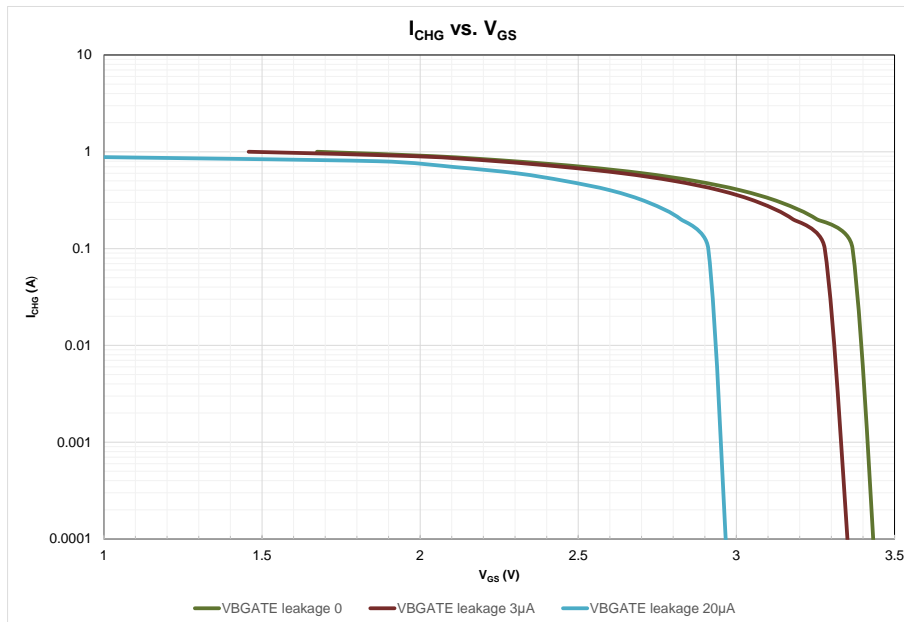
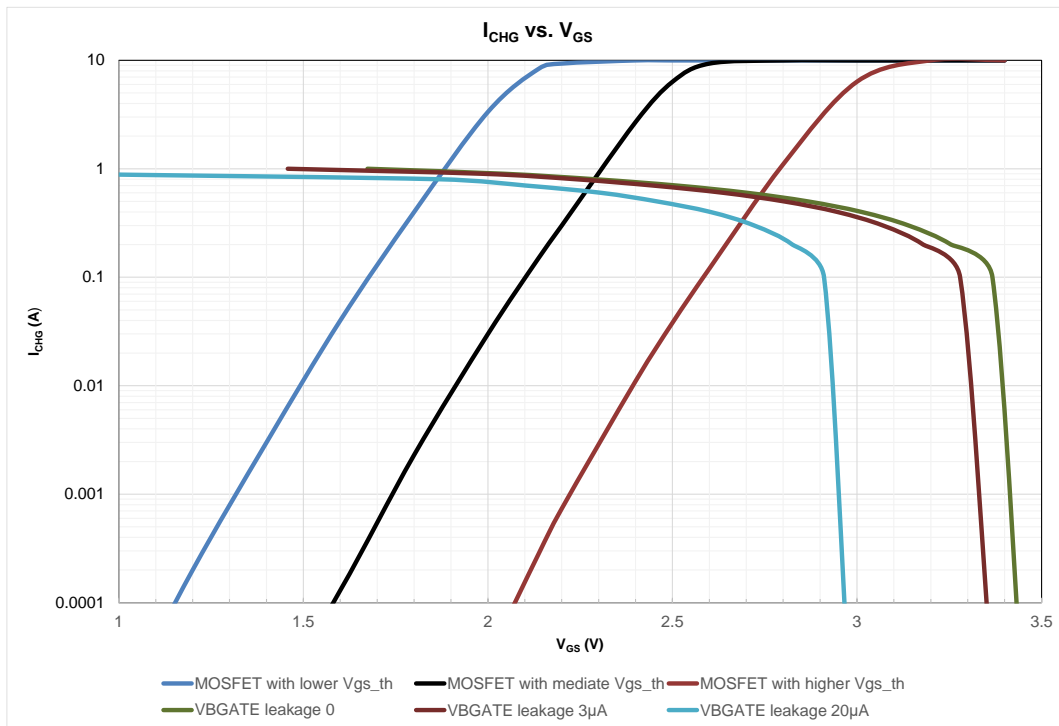

Figure 5: I_{CHG} vs. V_{GS} of the MP2760's BATFET ($I_{CHG_CONF} = 1A$)
Figure 6: Estimated I_{CHG} When the MP2760's BATFET Works Linearly with Different MOSFET Types ($I_{CHG_CONF} = 1A$)
Figure 5 shows the relationship between the MP2760's I_{CHG} and the BATFET's gate-to-source voltage (V_{GS}) when I_{CHG_CONF} is set to 1A, which reflects the driving ability under 1-cell applications. In 2-cell to 4-cell applications, the charge pump's input is sufficiently high, and the current source that drives BATFET does not become saturated. Due to this, this application note only provides guidance on selecting BATFET in 1-cell applications.
Figure 6 shows the transfer characteristics of three different N-channel MOSFETs. These characteristic curves are paired with the curves from Figure 5 on page 4.
Based on Figure 6, it is possible to estimate the BGATE pin voltage (V_{BGATE}) and I_{CHG} values for different MOSFET types. Table 1 lists the estimated V_{GS} and I_{CHG} values to select a MOSFET with the optimal transfer characteristics.
1. Based on Figure 6 on page 5, when I_{CHG_REQ} is set to 0.8A, V_{GS} is between 2V and 2.5V.
2. The leakage current (I_{LKG}) pulled from the external BGATE can be calculated with Equation (3):